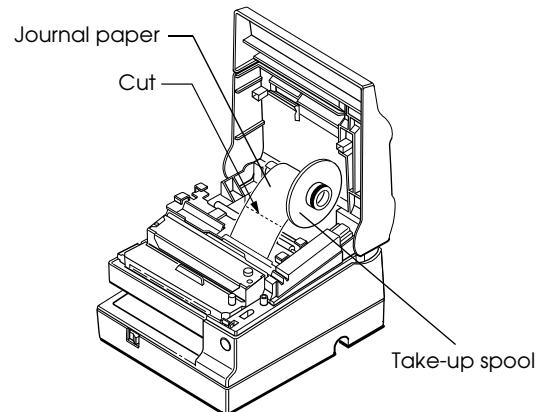

Figure 3-7. Cutting the Journal Paper
2. If the paper is jammed in the journal paper side, cut the journal paper with a pair of scissors or a knife referring to Figure 3-7; then remove the take-up spool.